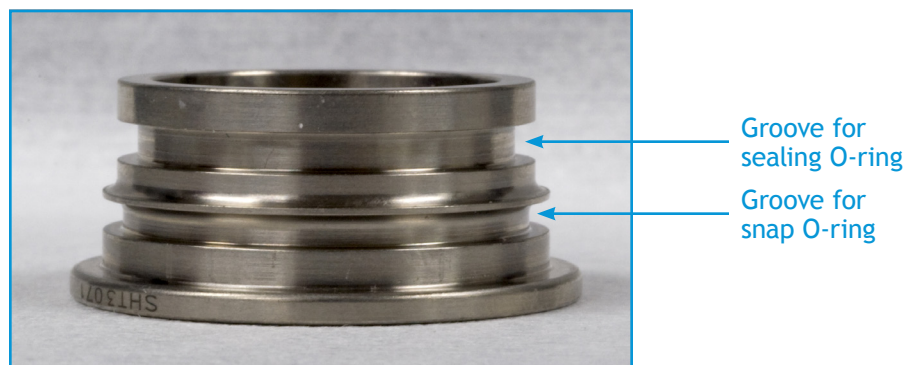

Figure 3-13: Close up of O-ring grooves in puck top
9. Place the snap O-ring in the topmost groove in the puck top (see Figure 3-13). Note that the snap O-ring is the larger diameter of the two O-rings used.